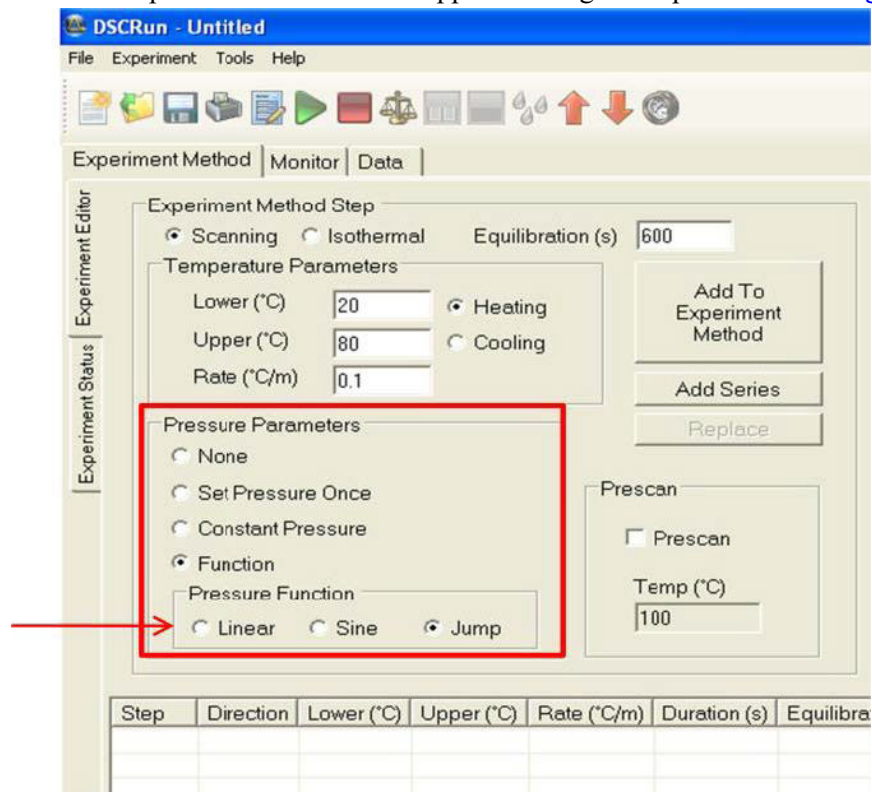

Figure 91 Screen shot of DSCRun highlighting the different pressure parameters available.
On the **Experimental Method** tab, check either scanning or isothermal and enter the temperature limits and scan rate; see Figure 91. If scanning, a slow rate is required because the calculations assume isothermal conditions; see the definition of $\bar{\alpha}$ in Equation 1 (4). If the scan rate is slower than the instrument feedback then it can be safely assumed isothermal during the pressure steps. A rate of 0.1 °C/min is recommended. This scan rate will typically satisfy the isothermal requirement without scanning so slowly that resolution of the heat rate is unduly sacrificed.
Choose the pressure function to be applied during the experiment. See Figure 91.